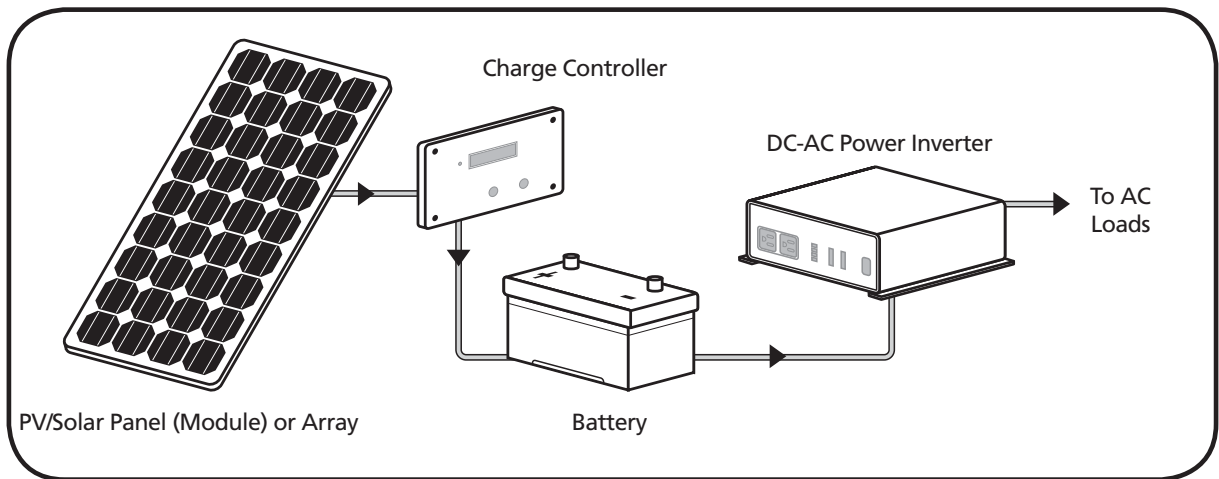

Fig. 2.1. Non Grid-tied PV System–Block Diagram
Fig. 2.1 shows a Block Diagram of a typical non-grid tied Photovoltaic (PV) System with its main components. It consists of a PV / Solar Panel (Module), Charge Controller, Batteries and Power Inverter. The PV / Solar Panel (Module) or Array converts the solar light energy into DC electrical energy. The Charge Controller conditions the DC electrical voltage and current produced by the PV / Solar Panel (Module) or Array to charge a battery. The battery stores the DC electrical energy so that it can be used when there is no solar energy available (night time, cloudy days etc). DC loads can be powered directly from the PV / Solar Panel (Module) / Battery. The inverter converts the DC power produced by the PV / Solar Panel (Module) / stored in the battery into AC power to enable powering of AC loads.